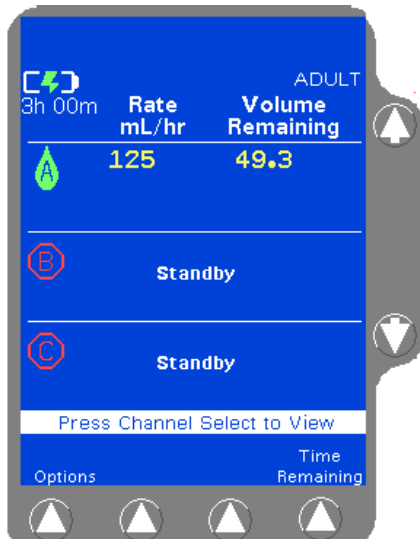

Figure 4-86 New Rate Running
4. Press the **START** key to begin infusing at the new rate (Figure 4-86). If the **START** key is not pressed, the pump continues infusing at the previous rate.